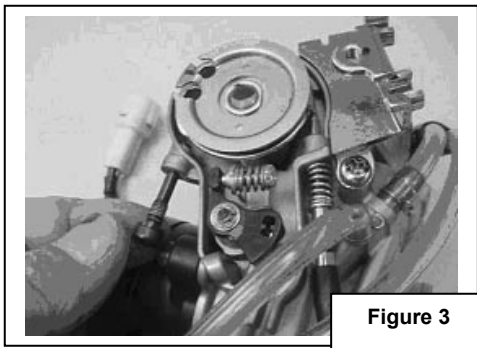

Figure 3
- Install throttle stop (#8) (figure 3)